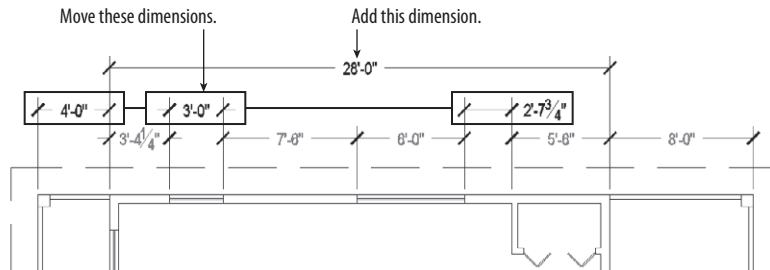

FIGURE 12.20: Adjusted dimensions with an overall cabin dimension added
8. Select the dimensions that need adjustment, and use the grips near the arrows or at the text to adjust the dimension line or text location (see Figure 12.20).
9. Add a linear dimension from the end of the front deck to the beginning of the cabin, and another overall dimension from one end of the cabin to another, as shown in Figure 12.20.